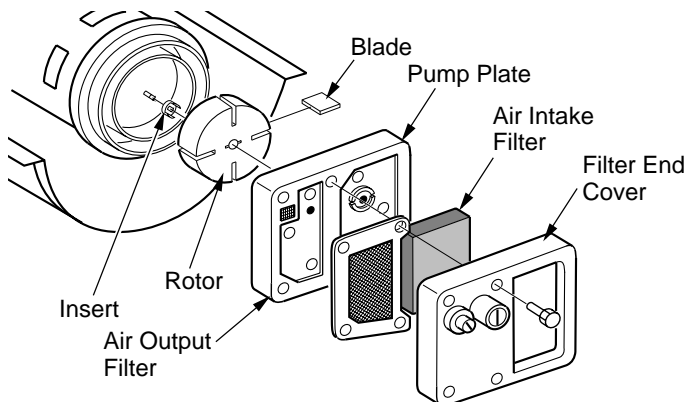

Figure 20 - Rotor Location
- Remove filter end cover screws using 5/16" nut driver (see Figure 20).
- Remove rotor, insert, and blades (see Figure 20).